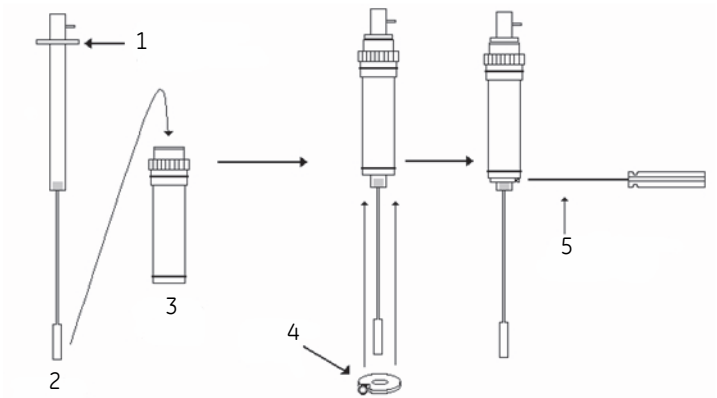

Figure 3-3. Pipette assembly.
To assemble the pipette, please do the following (please refer to diagrams in *Figure 3-3*):
- 1 Insert an injection syringe into the syringe holder until the top syringe clamp is firmly seated against the top of the syringe holder, being careful not to bend the needle against the inside of the holder. (See *Figure 3-3*)
Table 3-3. Parts in Figure 3-3.